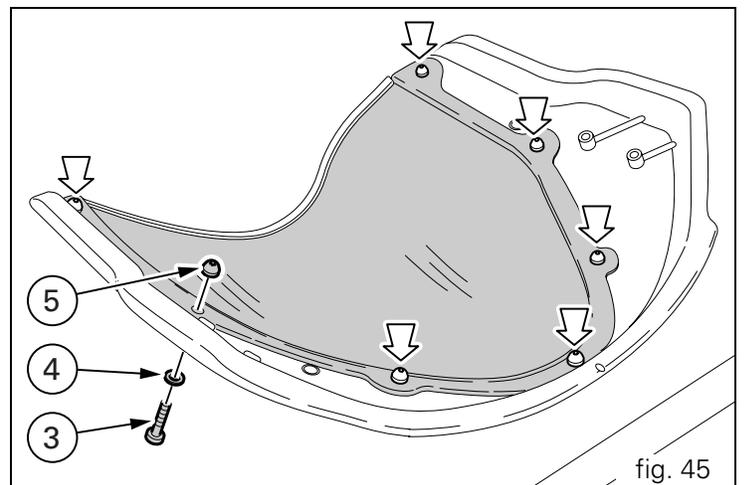

fig. 45
To replace the windshield, use the special torx wrench to unscrew the screws (3) and nylon washers (4), while holding the rubber coated nuts (5) in position from the inside the fairing (fig. 45).